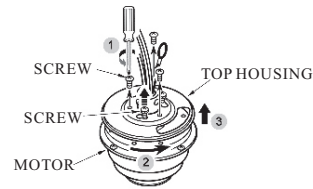

FIG. 1/2
1. Remove the 3 screws at round holes and loosen the 3 key hole screws. Then, take off the top housing from fan body for blade assembly preparation. (See fig.1/2)